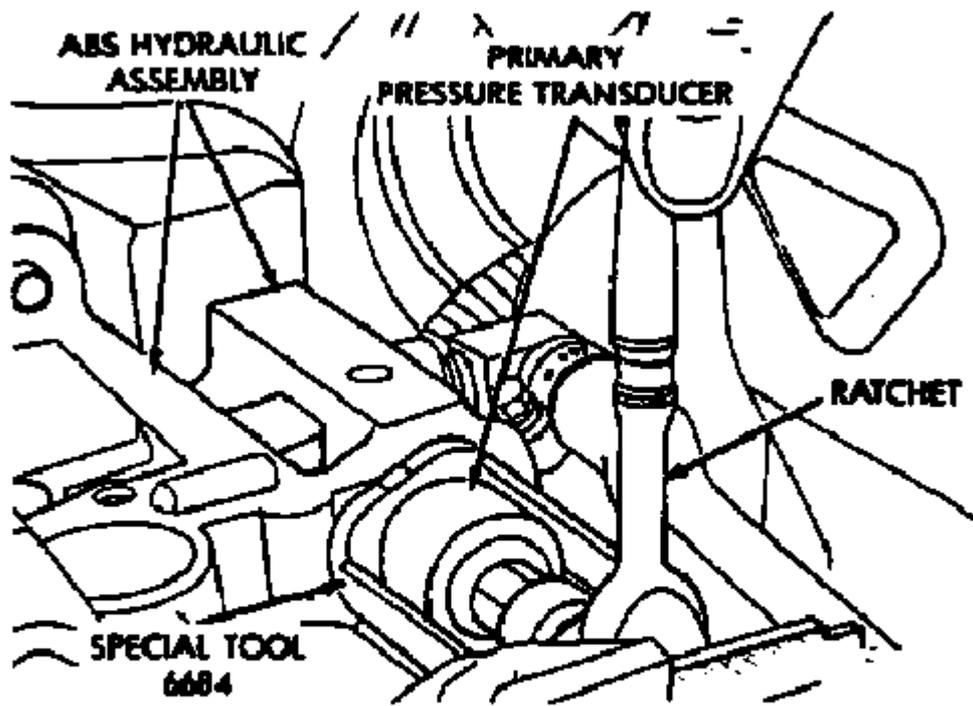

Figure 2
4. Using special tool #6684 (Figure 2), remove the primary pressure transducer from the actuator housing.
4. Remove the hose clamps and pump supply filter at the front the actuator assembly (Figure 2). Cap the supply hose leading from the actuator assembly. Discard hose clamps and filter.
6. Place a 1/2" box end wrench over the lower mounting stud of the hydraulic unit, see (Figure 8). Place a nut onto the stud and turn it enough to engage the threads 100%. Make sure that the wrench is aligned, as illustrated in (Figure 2), on the input rod bearing.